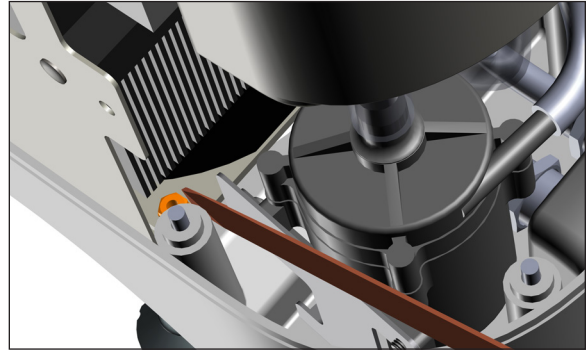

Figure 151 - Step 5 Hold Keps nut #4
5. Hold it in place in the same manner as screw #3, and thread the screw into the nut (Figure 151).